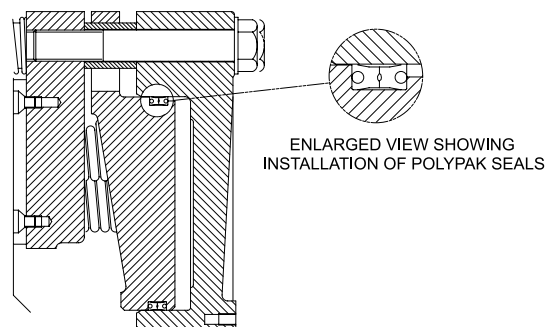

Figure 12
- 4.4.5 Insert new seals (21) (23) into the grooves, noting the orientation of the seals per Figure 12.